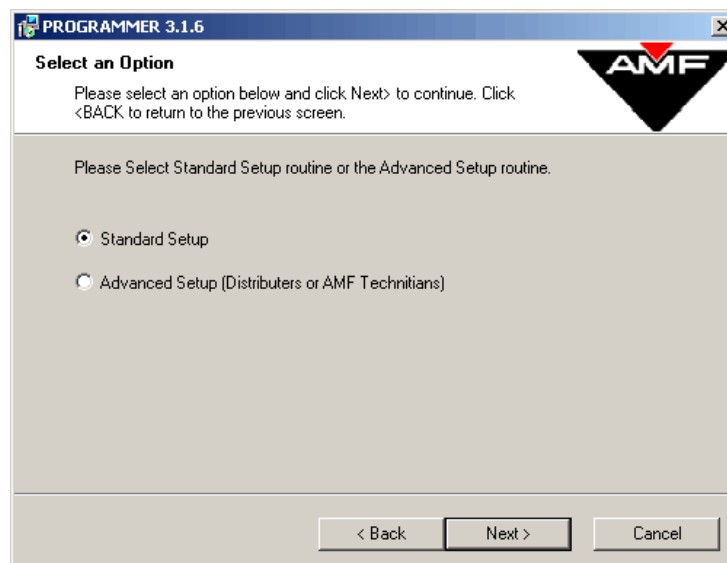

Figure 1-3
5. There are two different choices for installation as seen in **Figure 1-3**. For the purposes of this manual, the Standard Setup will be used. Make sure Standard Setup is selected and click the <Next> button. If using the Advanced Setup, select the radio button next to it and then click the <Next> button. The Advanced Setup requires the use of a specific password to allow the program to continue installation. If the password is not entered correctly after three attempts, the installation will end.